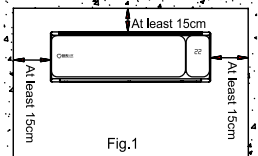

Fig.1
- Follow the distance requirements as shown in **Fig.1.**
- Position the back of the indoor unit close to the wall as illustrated in **Fig.1.**